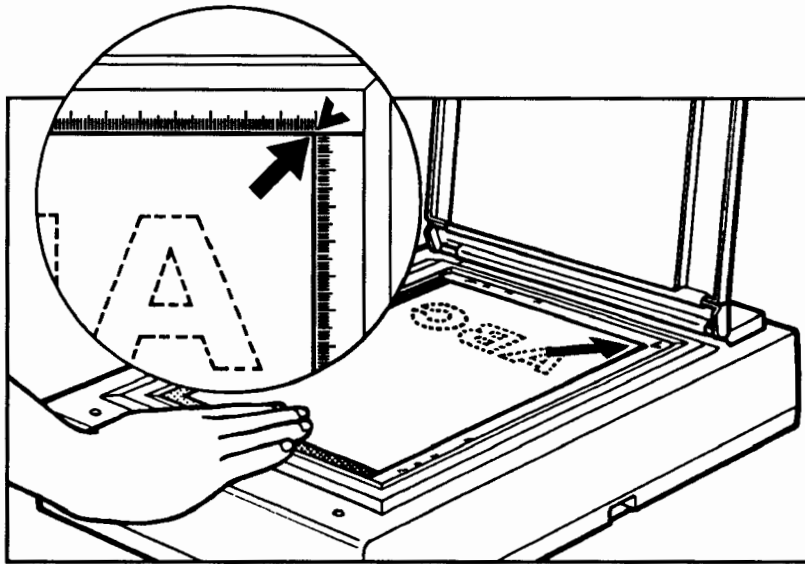

Figure 3-13. Placing the Test Target on the Copyboard
3. Place the test target squarely against the scaled frame of the copyboard with the image of the kitten against the glass and the orange arrows aligned as in figure 3-13.